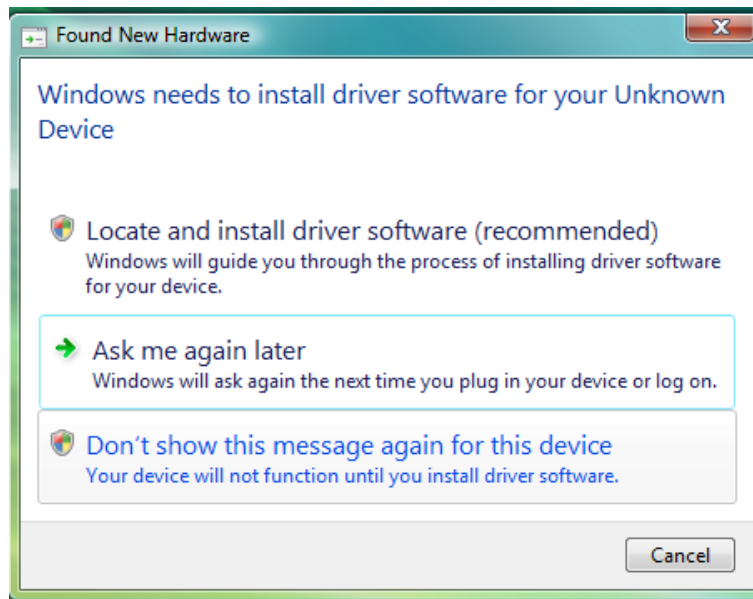

Figure 24 - Found New Hardware window
3. The computer will discover new device and attempt to install drivers. The Found New Hardware window will open, see Figure 24. Click on “Don’t show this message again for this device”. The window may appear twice.